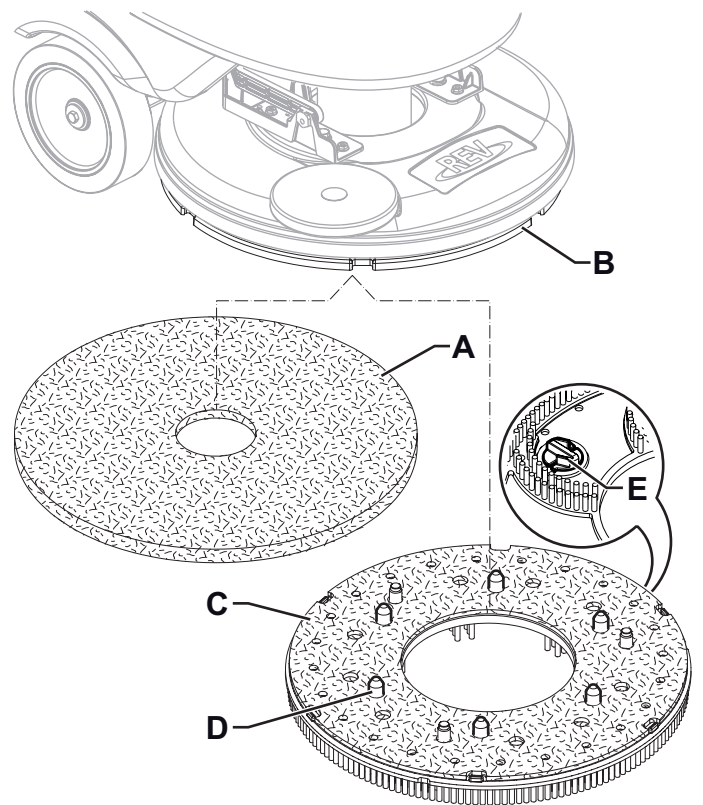

Figure 3
1. Make sure that the REV™ deck (37) is lifted.
2. Turn off the machine and remove the operator key (41).
3. According to the kind of cleaning to be performed, install the pad (A, Fig. 3) or the brush (C, optional) and note the following:
- Place the pad (A) under the deck and press it until it is fastened with the Velcro of the drive disc (B).
- Place the brush (C, optional) under the deck, and then match the centering pins (D) to the respective holes of the drive disc (B), and then engage the brush with the three mounting screws (E).